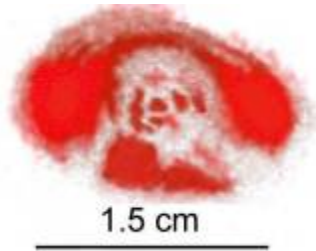

Fig. 2-97
- *In case of triangular cantilevers, when the ray will be directed to the very end of the cantilever, the image at the screen must have a look, approximately, as it's show at Fig. 2-97. Meantime, this image is approximately the same for any cantilevers of triangular form, not depending on their sizes.*